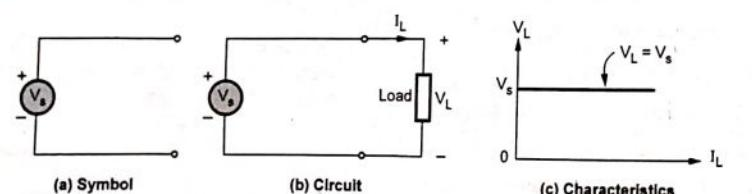

Fig. 1.6.1 Ideal voltage source
- The symbol for ideal voltage source is shown in the Fig. 1.6.1 (a). This is connected to the load as shown in Fig. 1.6.1 (b). The Fig. 1.6.1 (c) shows the V-I characteristics of ideal voltage source.